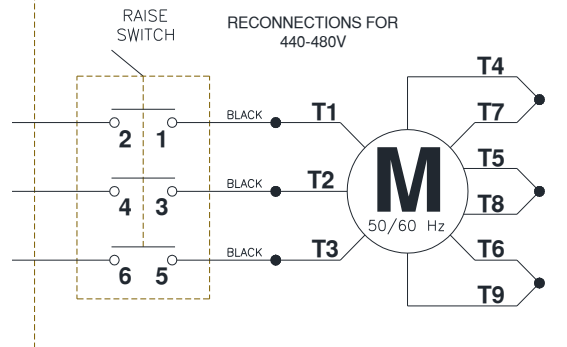

Fig 17 – Electrical Wiring Diagram
See **Figure 17** for the following steps.
- 33) Connect the Overhead Limit Switch Cord to Power Unit as shown in **Fig. 17**.
- 34) Connect Power Unit to suitable electrical source as shown in **Fig. 17**.